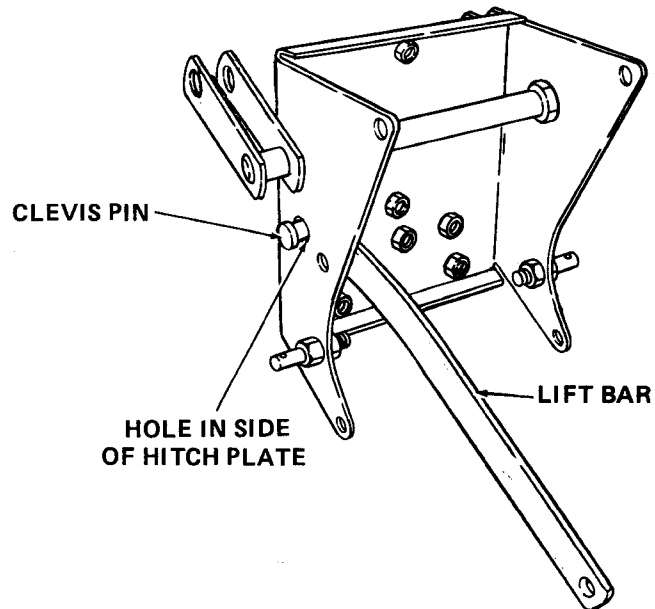

Figure A-9
- d. Align internal arm and lift bar with hole on right side of 3-point hitch plate assembly and insert clevis pin (F). Secure with cotter pin (G). Refer to Figure A-9.